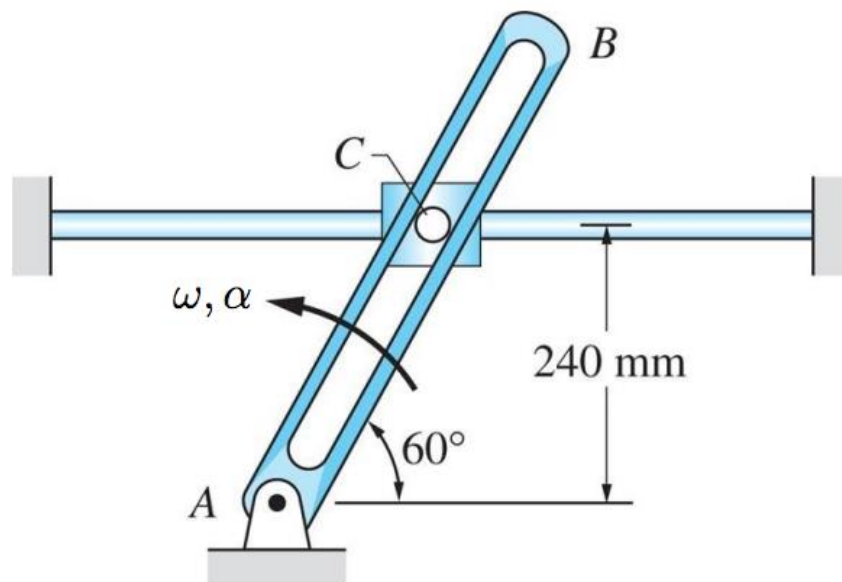

Figure 2
2. Figure 2 shows a collar C whose pin is constrained to slide within the slot cut into link AB, and the collar is pushing the link AB to force the link to rotate about the pivot point A. At the instant shown, the collar is moving to the left at a speed of 2 m/s and accelerating at 5 m/s2. Using a rotating axes system with the x-axis to be along the link AB, calculate the following: